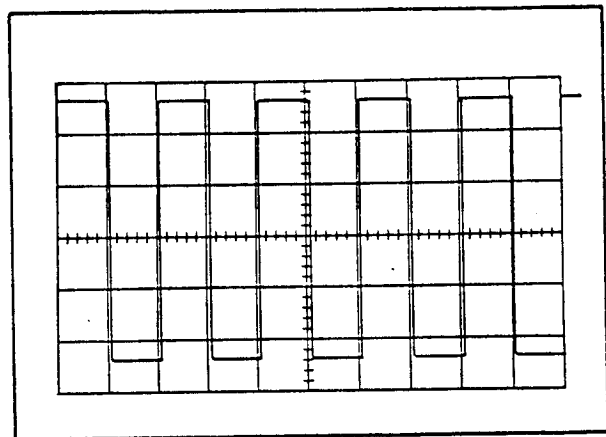

Fig. 5-2. Typical crt display showing correct vertical gain.
- e. Check—Crt display for exactly five divisions of deflection (see Fig. 5-2).
- d. Check—Crt display 5 divisions in amplitude (see Fig. 5-2).